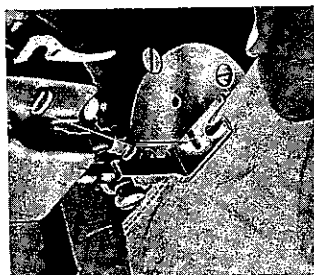

Fig. 26
7. Fold over edge of fabric about one-eighth of an inch, for a length of about two inches, and insert this fold beneath hemmer into scroll (Fig. 26). The spiral tongue of the hemmer turns in the edge of the fabric and forms the hem.